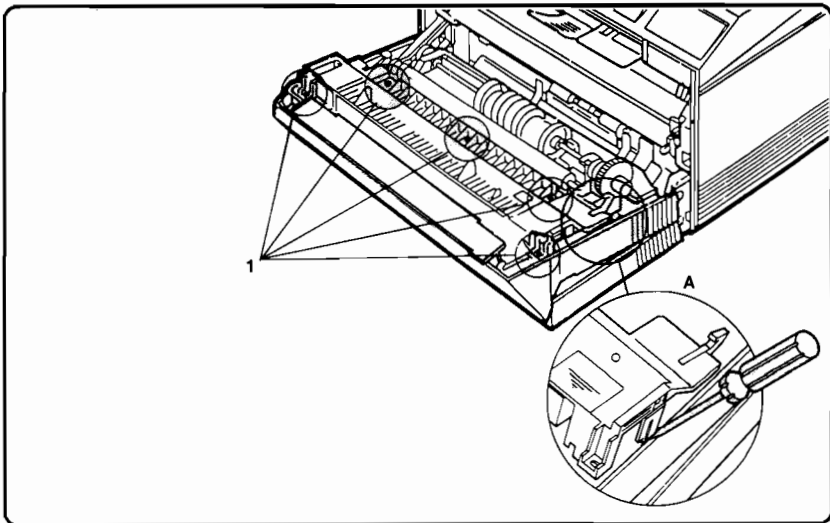

Figure 6-55. Fusing Assembly Removal
2. Remove the shoulder screws (5) securing the Fusing Assembly (see Figure 6-55, callout 1).
3. Unlatch the Fusing Assembly by using a small flat-head screwdriver at both ends of the latch rod while lifting slightly (see Figure 6-55, detail A).
1. Remove the Fusing Assembly (see Figure 6-55).
2. Remove the Fusing Assembly (see Figure 6-55).